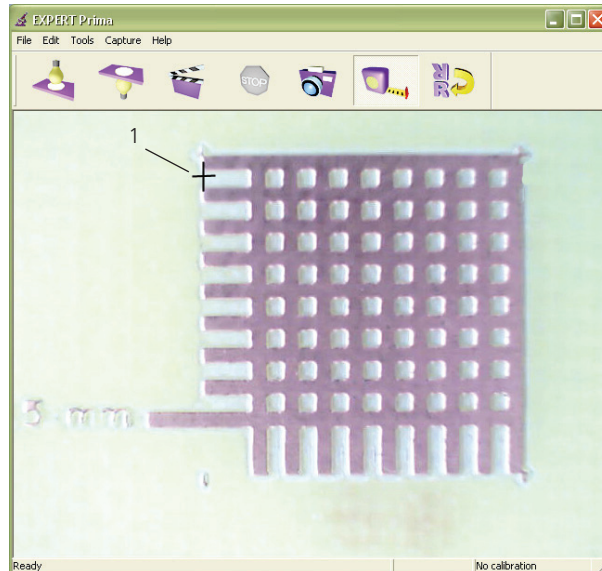

Fig.10a. Calibration.
- o Point the cross-like cursor at the edge of a grid's strip as shown in fig.10a and click the left button of the mouse.